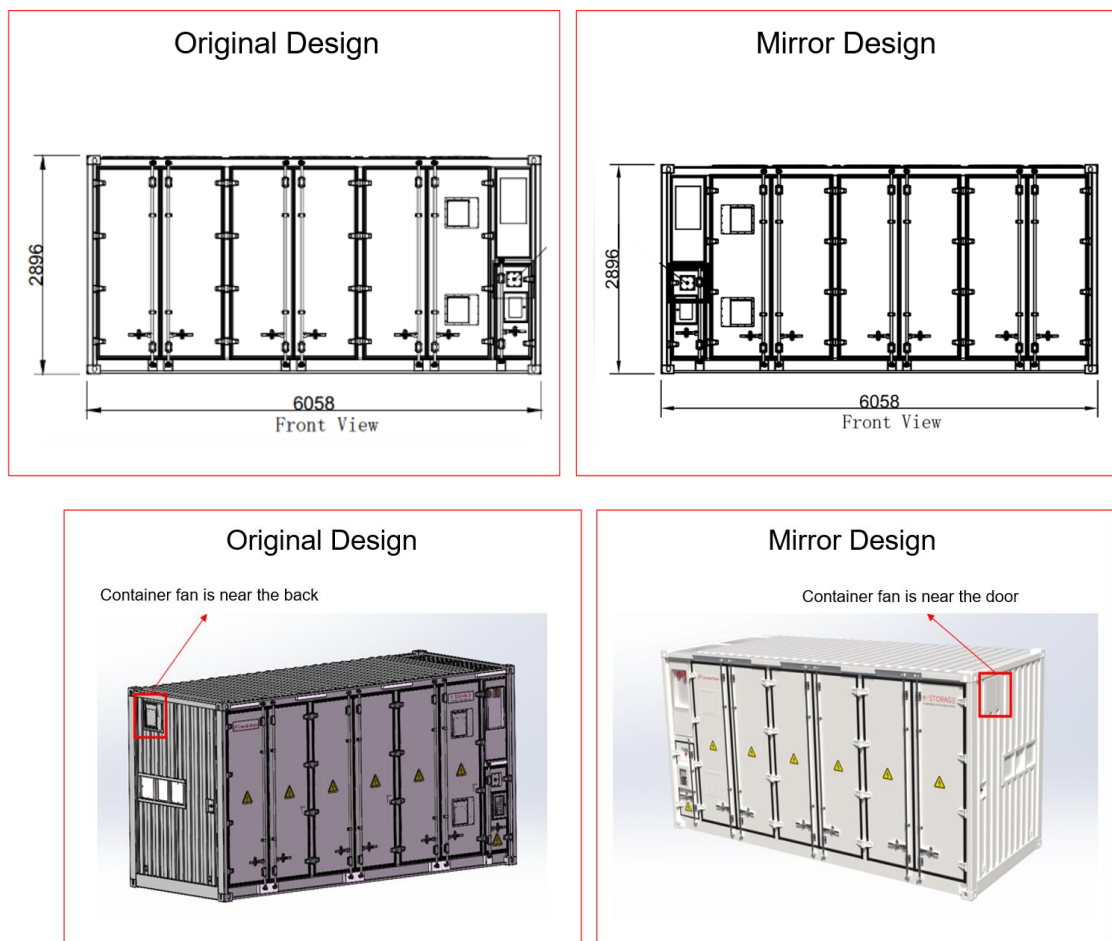

Figure 12 –The container and container fan mirror design
① The Container is design as a whole mirror the container fan changed from near the back to near the door side, as figure 12 shown